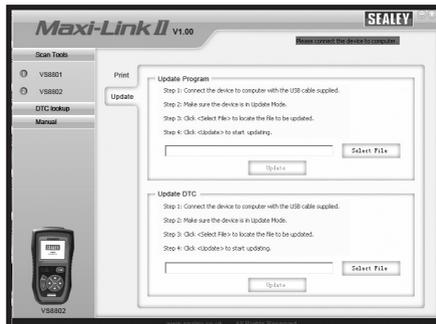

Figure 3.13.
- 2) Run the Maxi Link II Tool Kit on your computer. (Figure 3.13)
- 5) Select the programs to be updated in your computer. There are two types of programs: operating system and DTC library. (Figure 3.13)